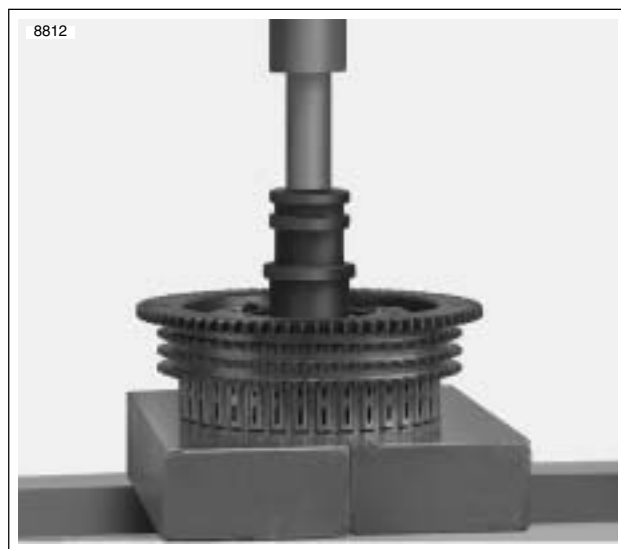

Figure 6-27. Removing Clutch Shell Needle Bearing
1. See Figure 6-27. Place clutch shell on support blocks with sprocket side facing up.
2. See Figure 6-27. Insert removal end of tool into bearing assembly and remove bearing from clutch shell.